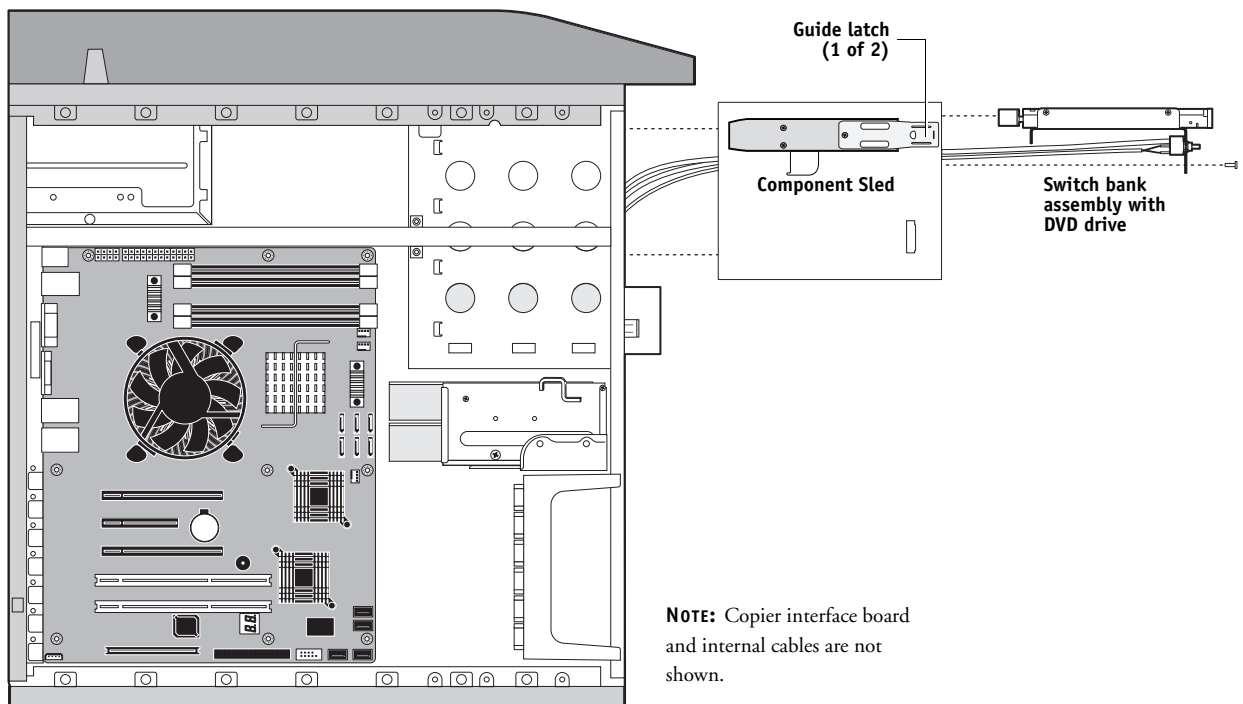

FIGURE 36: Component Sled with switch bank assembly
4. Unharness the cables from the cable clamp(s) and tie-wraps inside the chassis.**5. Remove the Component Sled from the chassis (see Figure 36 on page 97).**